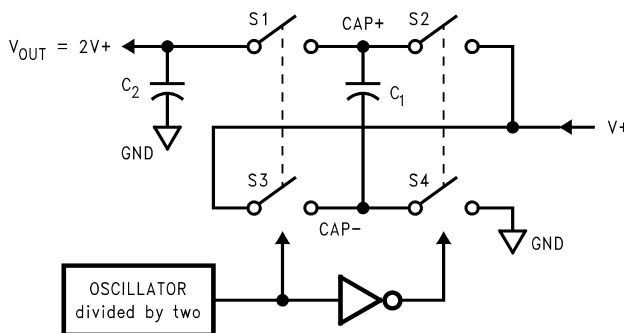

Figure 11. Voltage Doubling Principle
The LM2767 contains four large CMOS switches which are switched in a sequence to double the input supply voltage. Energy transfer and storage are provided by external capacitors. Figure 11 illustrates the voltage conversion scheme. When S_2 and S_4 are closed, C_1 charges to the supply voltage V_+ . During this time interval, switches S_1 and S_3 are open. In the next time interval, S_2 and S_4 are open; at the same time, S_1 and S_3 are closed, the sum of the input voltage V_+ and the voltage across C_1 gives the $2V_+$ output voltage when there is no load. The output voltage drop when a load is added is determined by the parasitic resistance ($R_{ds(on)}$ of the MOSFET switches and the ESR of the capacitors) and the charge transfer loss between capacitors. Details are discussed in Application and Implementation.
- R_{SW} is the sum of the ON resistance of the internal MOSFET switches shown in Figure 11. (1)